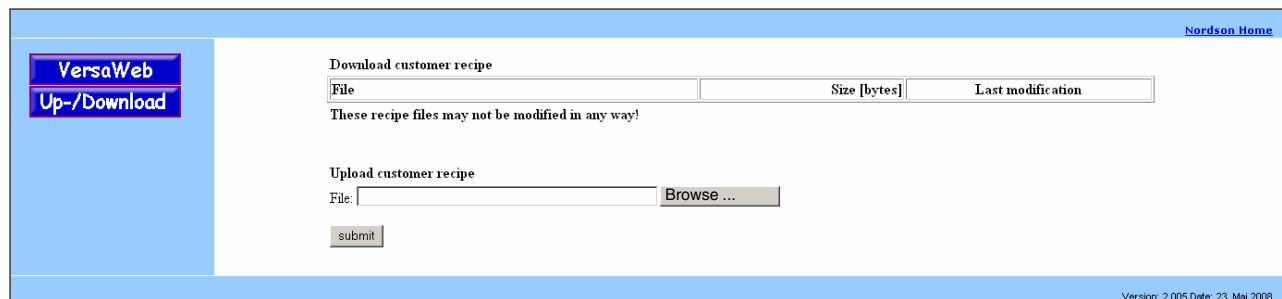

Fig. 4-3
1. Under *Upload customer recipe*, touch *Browse* and select the desired recipe (Fig. 4-3).